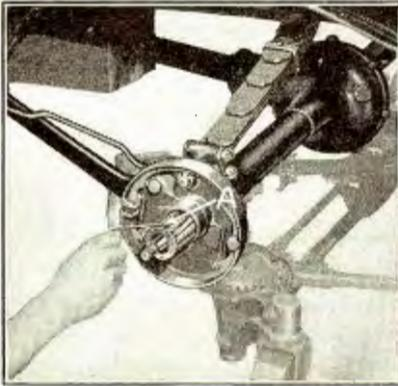

Fig. 352
- 633** Withdraw outer roller bearing by inserting a small wire hook over end of bearing; bearing can then be withdrawn from sleeve (See "A" Fig. 352).